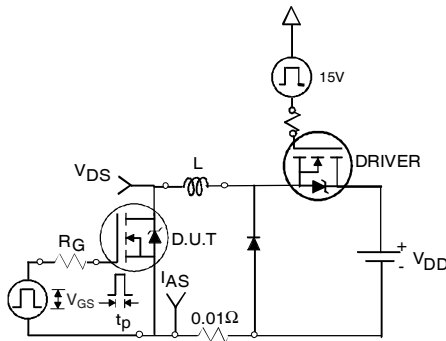

Fig 17a. Unclamped Inductive Test Circuit
- ③ Pulse width $\leq 1.0ms$; duty cycle $\leq 2\%$.
- ④ $C_{oss \text{ eff.}}$ is a fixed capacitance that gives the same charging time as C_{oss} while V_{DS} is rising from 0 to 80% V_{DSS} .
- ⑤ Limited by T_{Jmax} , see Fig.17a, 17b, 14, 15 for typical repetitive avalanche performance.
- ⑥ This value determined from sample failure population. 100% tested to this value in production.
- ⑦ This is only applied to TO-220AB package.
- ⑧ R_{θ} is measured at T_J approximately 90°C
3. Equation below based on circuit and waveforms shown in Figures 17a, 17b.